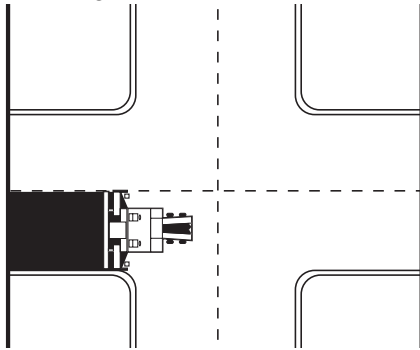

Figure 7-11. Paving Through Intersections
1. With both sides in Elevation Control, pave to the intersection (Figure 7-11).